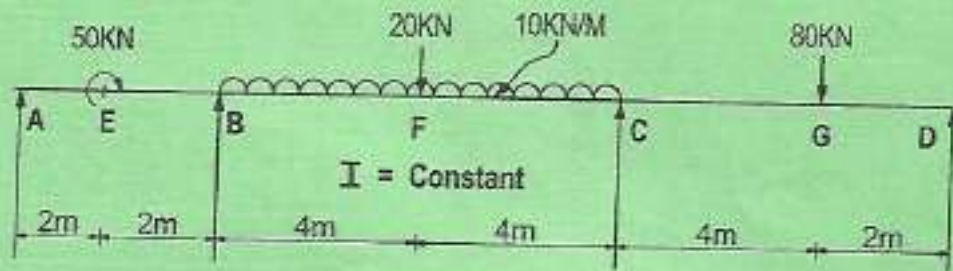

FIGURE 1
1. (a) Using the method of moment distribution, analyse the beam shown in figure 1, hence sketch the bending moment diagram indicating values at all critical points. Make four distributions. (20 marks)